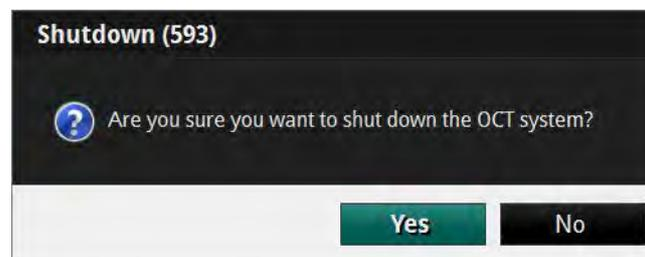

Figure 2-2: Shutdown Menu
1. Click the **Shutdown** button located at the top of the screen. The system's **Shutdown** menu appears (Figure 2-2).